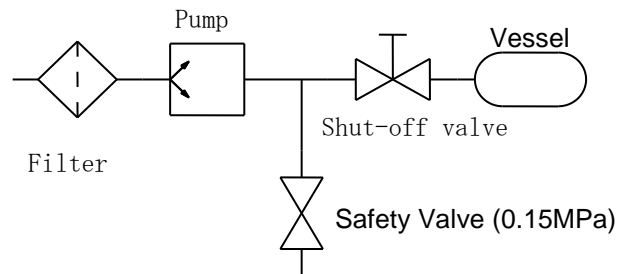

Fig.3.4 Example of Piping Used When Pressurizing a Vessel
- 4) Install the protection instrument such as safety valves about piping like Figure 3.4 between the exhaust tube and the container of the pump.